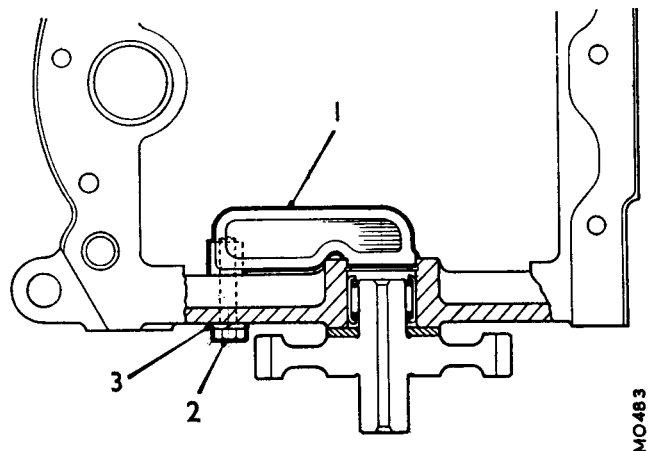

Fig. Fa.67
5. Smear the reservoir spigot with Hylomar jointing compound and fit the reservoir as shown in Fig. Fa.67. It may be necessary to fit a flat washer beneath the securing lug to ensure that the spigot is square in the idler gear bearing bore; later reservoirs have a built-up boss around the securing lug. Leave the idler gear bearing circlip in position and tighten the securing bolt.